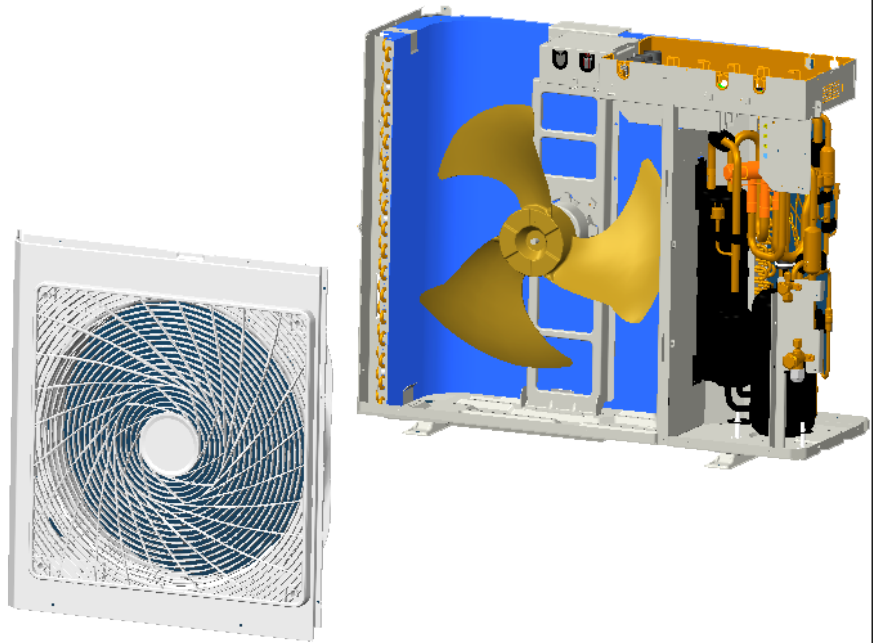

Fig. 3
- Loosen the tapping screws, and remove the Cabinet. [See Fig. 3]